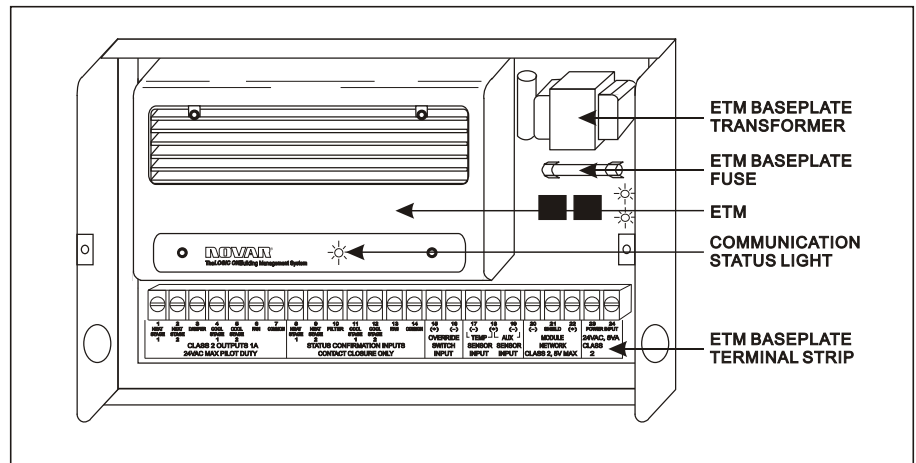

Figure 1. ETM-2020 with baseplate
The ETM-2020 (Figure 1) is designed to be mounted on a baseplate for use in a rooftop unit that supplies its power. It provides confirmation inputs for all output stages (except damper) and a second temperature input.
- ETM communication status light-emitting diode (LED) located on the front of the module (see Figure 1)